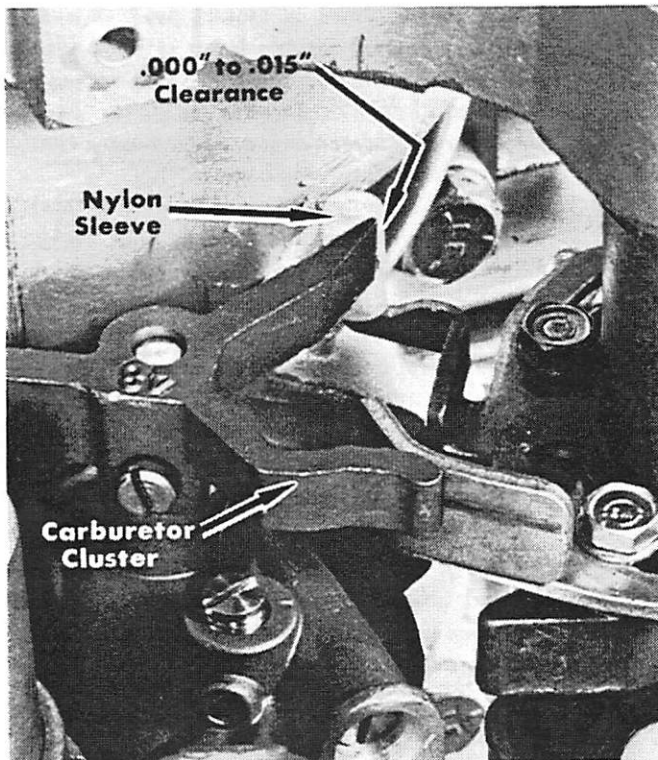

Figure 6. Second Throttle Pickup Tab Adjustment
16. Bend second throttle pickup pin (with nylon sleeve) against carburetor cluster (.000"-to-.015" gap). (Figure 6)